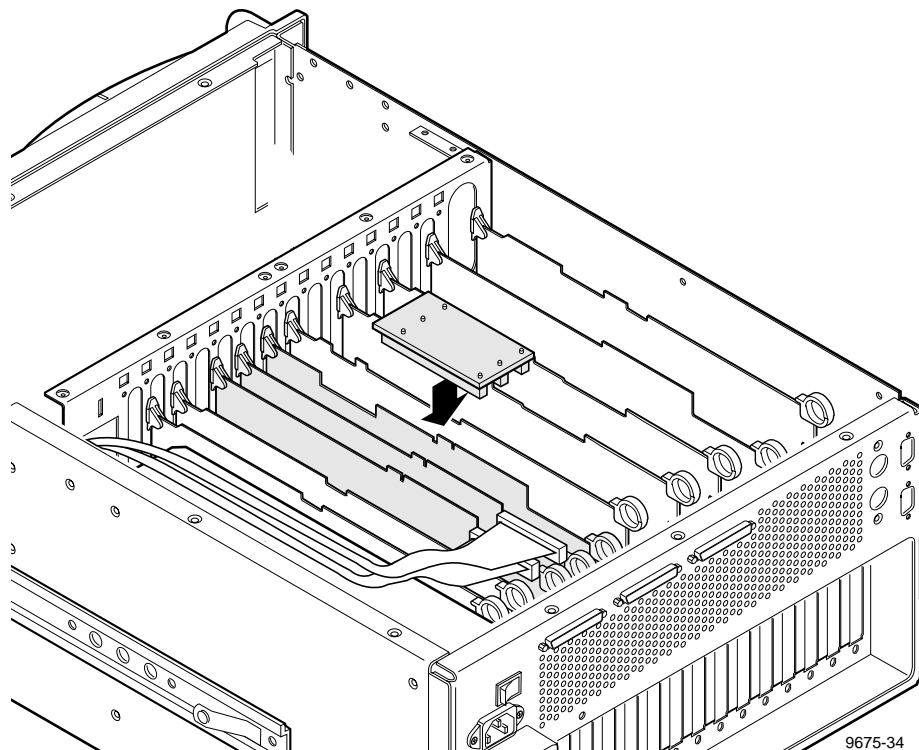

Figure 6-22. PCI Board Location
The PCI board connects across the top of the Slave EDR, Master EDR, and Fibre Channel boards. See Figure 6-22. Removal of any of these boards requires removal of the PCI board. Removal and replacement of the PCI board itself does not require any tools. However, it does require removal of the covers.
To install the PCI board, refer to Figures 6-22 and 6-23 and:
3. Attach the PCI board by gently but firmly pressing down until the PCI board is fully seated on all three boards (Figure 6-22).